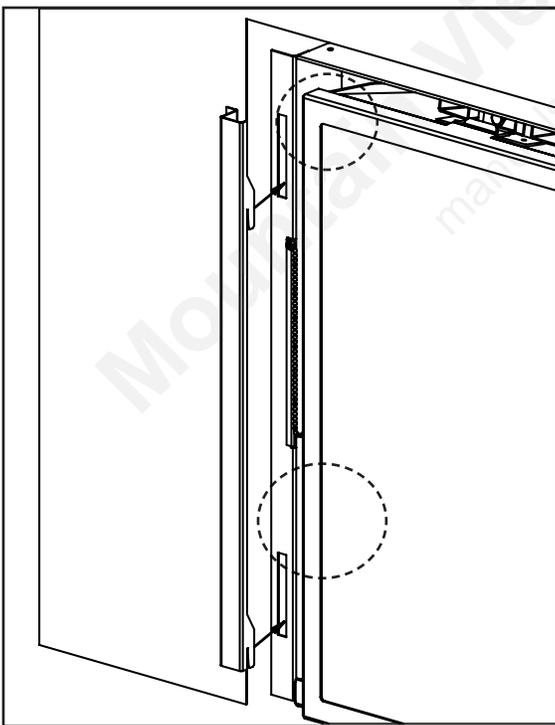

Figure 40: Panel Slot and Hook Locations
2. Install the Trimmable Panel by securing the four hooks onto the corresponding slots that are on the front of the E44 unit (See Figures 40 and 41)